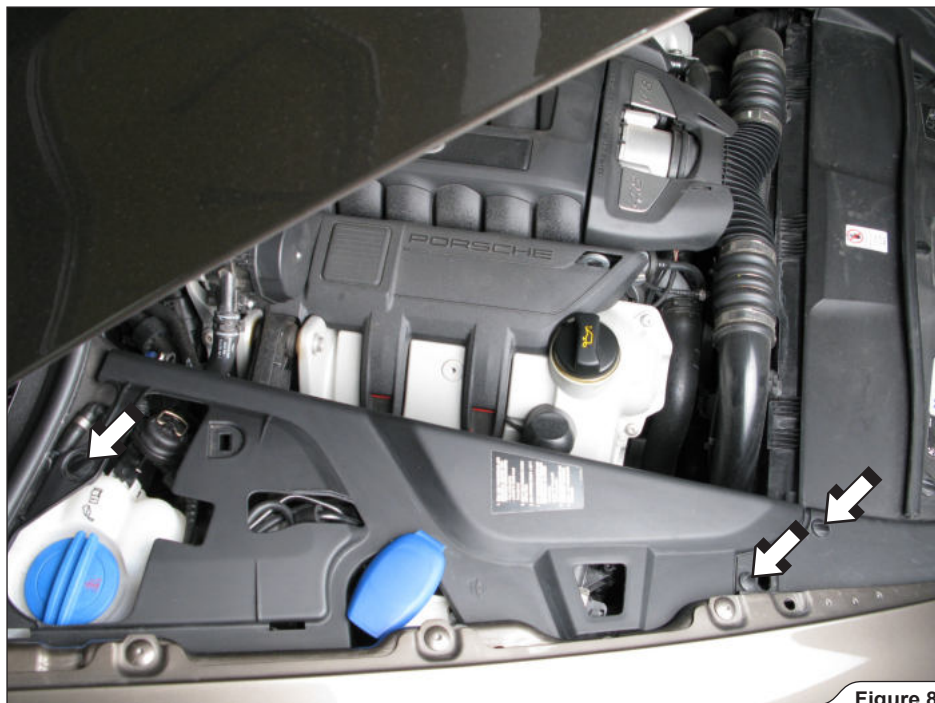

Figure 8
8. Undo the marked plastic fasteners and remove the right engine compartment cover (Figure 8).